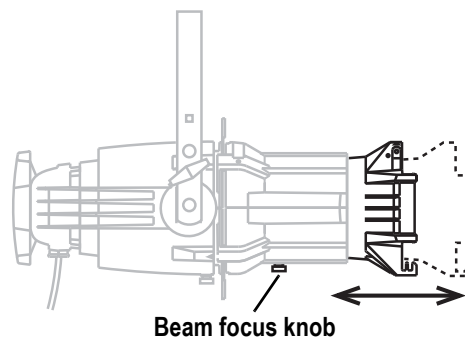

Figure 6
- Step 1: Loosen the beam focus knob located under the barrel as shown in Figure 6.